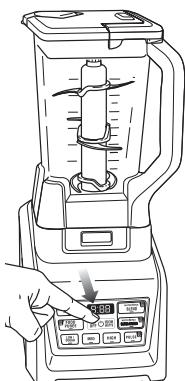

Fig. 7
NOTE: Nutri Ninja® | Ninja® Blender with Auto-iQ™ Technology can sense which jar is on the motor base. The available function lights will illuminate depending on which jar is placed on the motor base. (**Fig. 7**)
- 11 Press the power button to turn on the unit. Select the speed or Auto-iQ program that best suits your needs. The Auto-iQ program will stop the appliance automatically at the end of the program. (**Fig. 7**)